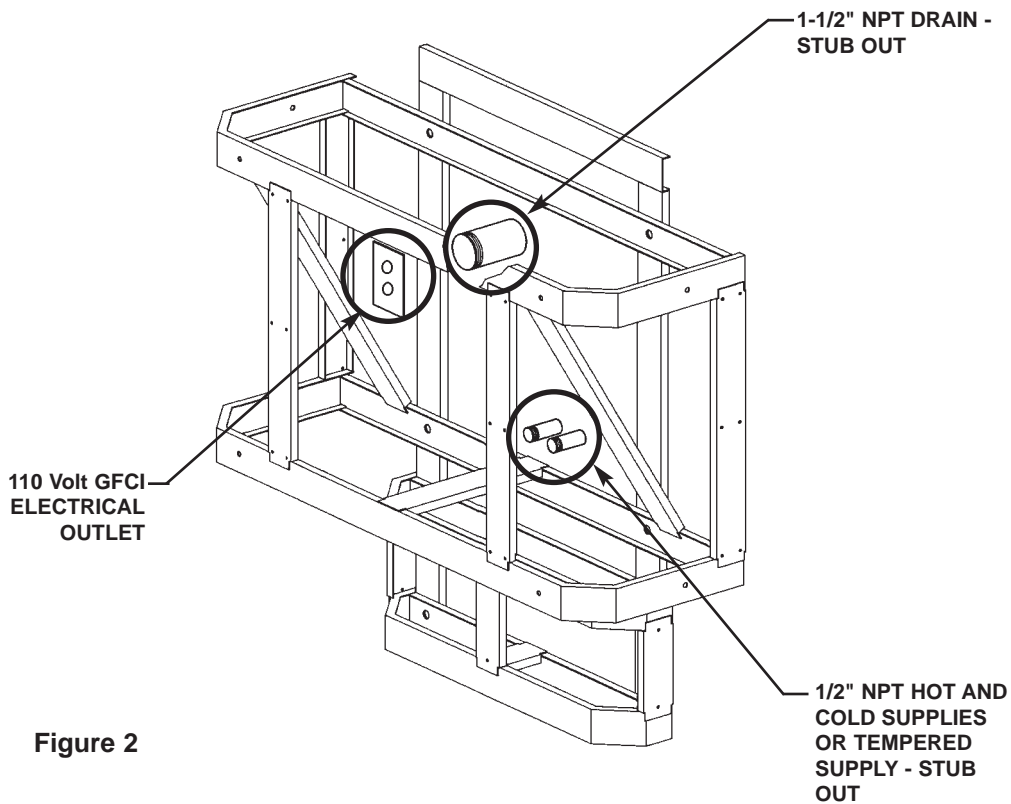

Figure 2
3. Install the 110 volt GFCI electrical outlet per local code at the location shown in Figure 2.